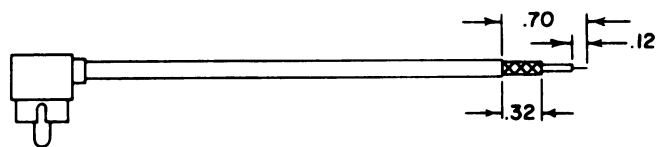
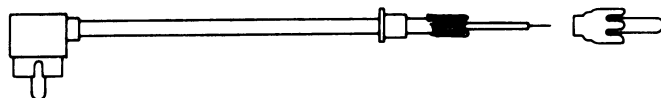

Figure 7 - Stripping Lengths for Receiver Cable
Figure 8 - Assembling Phono Connector on Receiver Cable
4. Strip the cable as shown in Figure 7 and solder the phono connector onto the cable as shown in Figure 8. Be sure that the center conductor is even with the tip of the phono connector.